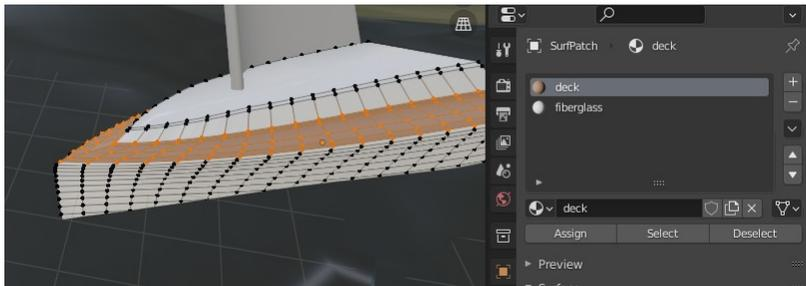

Figure 3-11 Assigning Materials to Vertices
18. You now need to assign a material to a selection of vertices. Still in Edit mode open the Material Properties tab then, if you have a Material Slot with a Material defined double-click and rename it “deck”. If there is no Material yet, add a new Slot then add a new Material and rename that. If you compare Figure 3-11 below with Figure 1-5 you will see that there is a line of buttons for assigning and selecting vertices by Material which is only visible in Edit mode. With the deck material selected in the list of slots, click **Assign** to associate the Material to the selected vertices.
20. Now create a different material to assign to the parts of the boats that are not deck. Add a new Material Slot and a new Material and rename it “fiberglass”. With your cursor back over the 3D Viewport select the cabin roof and hull by using **Select ▶ Invert**, however if you are in vertex selection mode as in Figure 3-11 this will leave a gap between the vertices selected for the deck and the fiberglass. So change to face selection mode, deselect all faces with **ALT-A** then in the Material Properties tab select the **deck** material and click **Select**. Now when you invert the selection there will be no gaps and you can select the **fiberglass** material and click **Assign** with the correct faces selected.